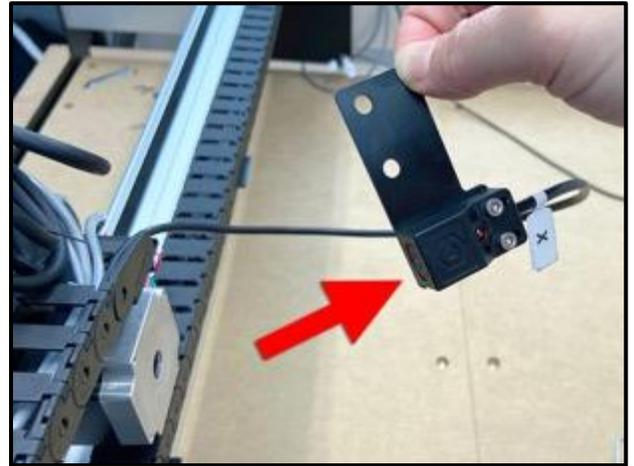

Figure 7-5
- Align the switch and plate, with the switch facing left and the plate's two PEM nuts in the **BOTTOM-RIGHT** corner. Flush the face of the switch with the edge of the plate. See *Figure 7-5*.
- Use the 2.5mm hex key and two (2) M3x18mm socket head cap screws to attach the switch to the plate. Make sure the front edge of the proximity switch and plate stay flush. See *Figure 7-5*.